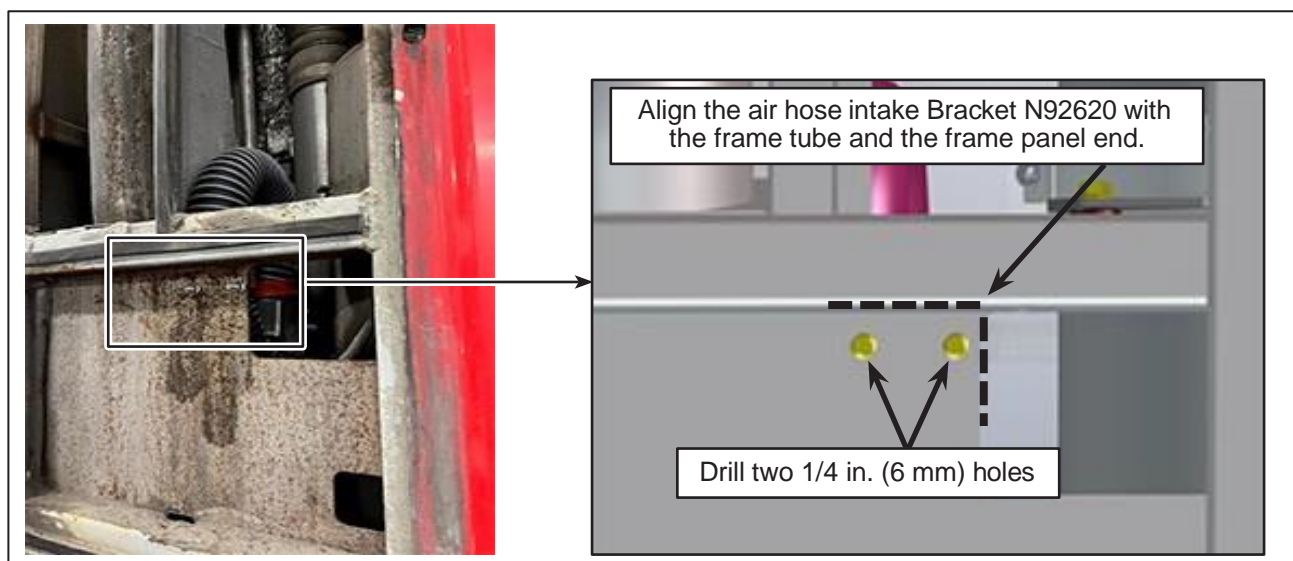

Figure 2 - Hole for Air Hose Intake Bracket
- 1.5. Using the air hose intake bracket N92620 as a template drill two 1/4 in. (6 mm) holes in the frame panel. See Figure 2 for hole location.